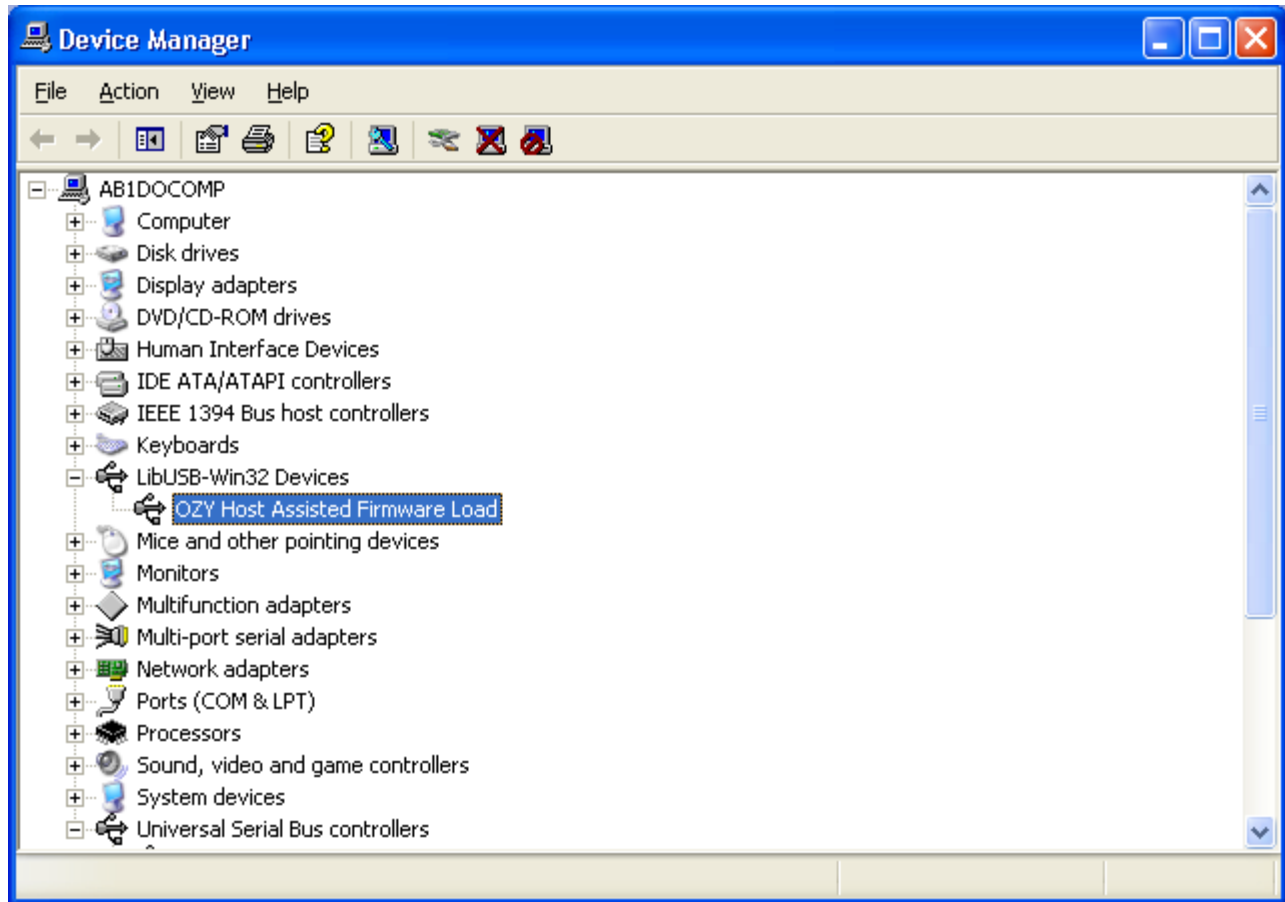

Fig 14: Device Manager Displaying Ozy Driver
- The Hardware will display the new driver, Ozy Host Assisted Firmware Load. Click **Finish**. The updated driver will be found in the Device Manager under **LibUSB-Win32 Devices** (see Fig 14).